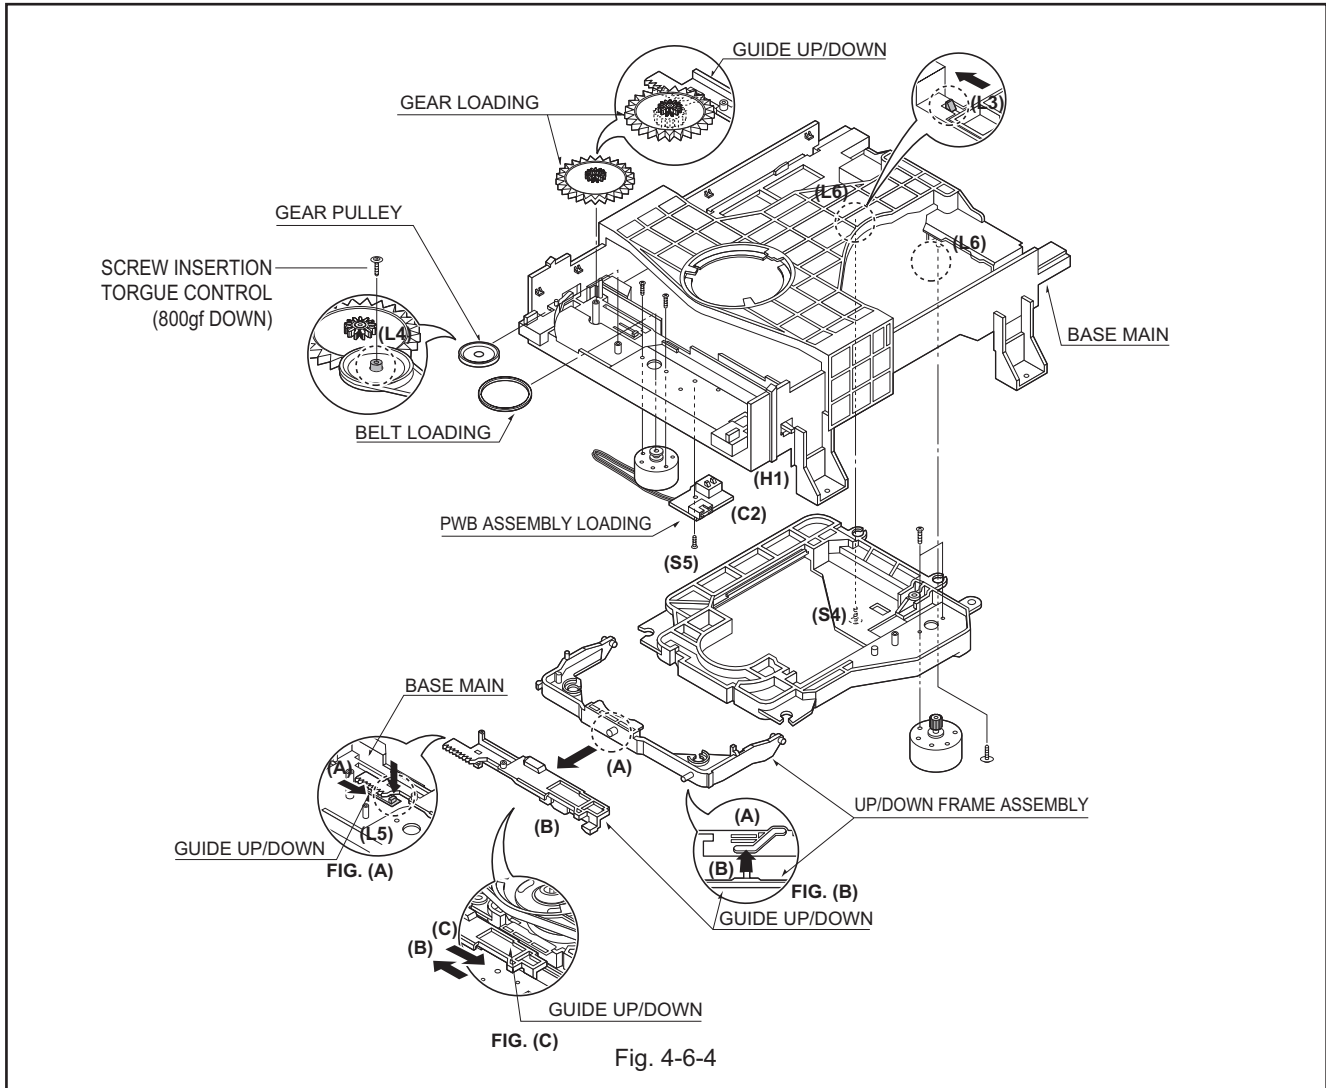

Fig. 4-6-4
5. Frame Assembly Up/Down (Fig. 4-6-4)
- When reassembling move the Guide Up/Down in direction of arrow(C) until it is positioned as Fig.(C).
- When reassembling insert (A) portion of the Frame Assembly Up/Down in the (B) portion of the Guide Up/Down as Fig.(B)
6. Belt Loading(Fig. 4-6-4)
7. Gear pulley (Fig. 4-6-4)
- 1) Unlock the Locking Tab(L4) in direction of arrow(B) and then separate the Gear Pulley from the Base Main.
8. Gear Loading (Fig. 4-6-4)
9. Guide Up/Down (Fig. 4-6-4)
10. PWB Assembly Loading (Fig. 4-6-4)
11. Base Main(Fig. 4-6-4)